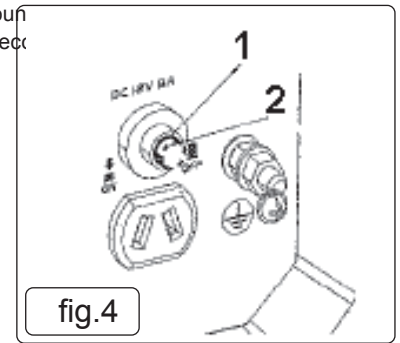

fig.4
4.4.1. The DC protector turns to "OFF" fig.4.(2) automatically when electric device being connected to the generator is operating at a higher current than the max stated in specifications.
4.6. Earth terminal fig.4